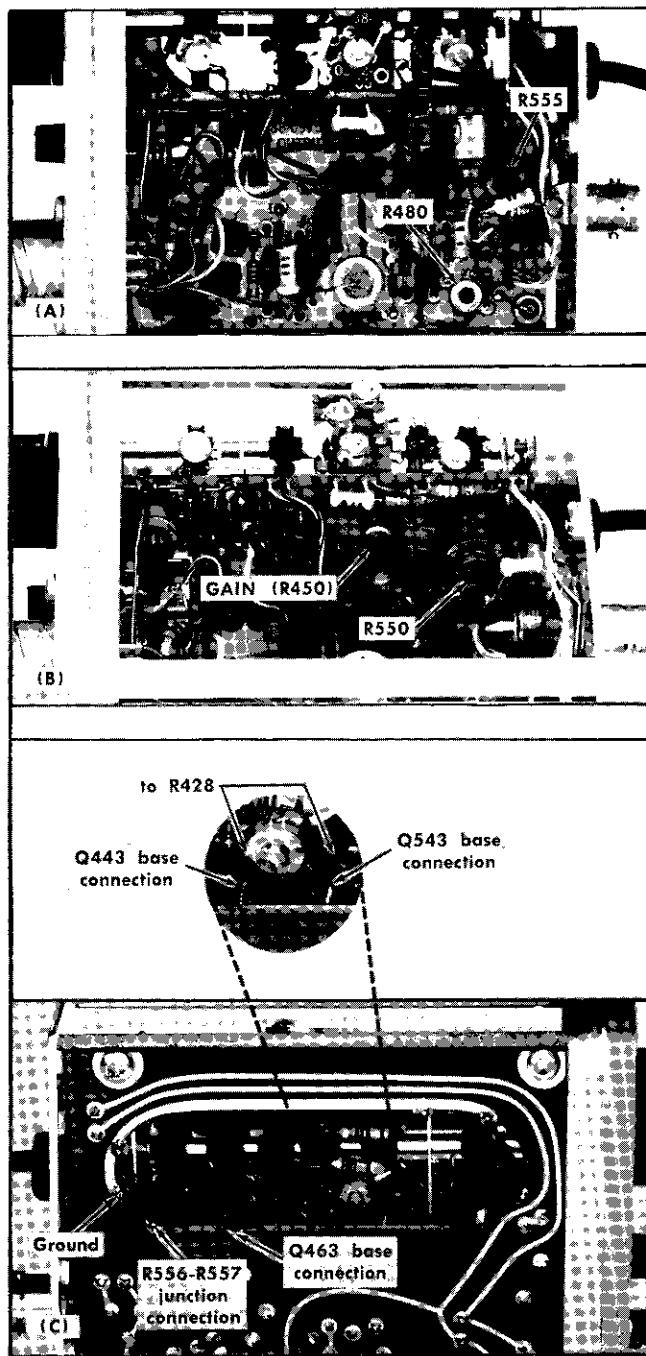

Fig. 6-24. Test points and adjustment locations for steps 3 and 5.
e. **CHECK and ADJUST**—Amplifier DC balance. The trace should remain exactly at graticule vertical center under the setups given in Table 6-6. Perform the steps in the sequence given. Temporarily solder a 10  $\Omega$   $-\frac{1}{4}$  W resistor (item 28) between indicated points while making each adjustment. The resistor and lead length should be cut to  $\frac{3}{4}$  inch (end to end) to minimize circuit interference. See Fig. 6-24 (B) and (C) for connection and adjustment locations.
- ADJUST—GAIN, R450, Fig. 6-24 (B), to provide exactly 4 divisions of vertical display.